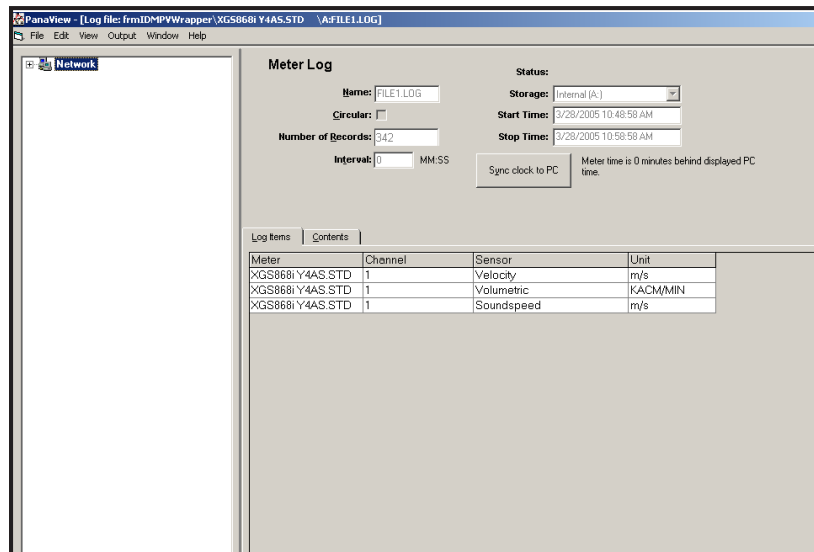

Figure 20: Data Window for an Individual Meter Log
2. Double-click on the desired log. A window opens for the individual log, as shown in *Figure 20* below.
- Click on the *Log Items* tab (see *Figure 20* above) for a list of the parameters specified for logging.